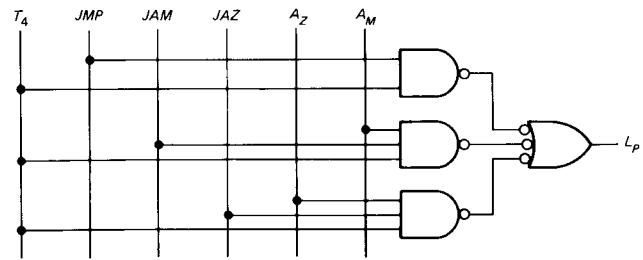

Fig. 3-34
- 3-25.** In Fig. 3-34 the inputs are T_4 , JMP , JAM , JAZ , A_Z , and A_M ; the output is L_P . What is the output for each of these input conditions?